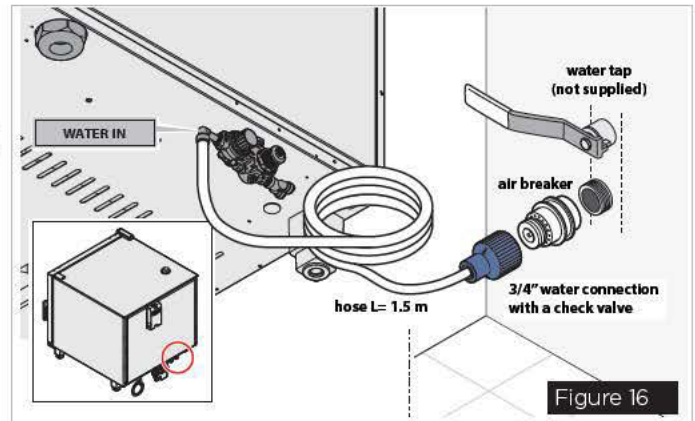

Figure 16
- We recommend to place a water tap upstream the water inlet connection (not supplied) (see **Figure 16**).